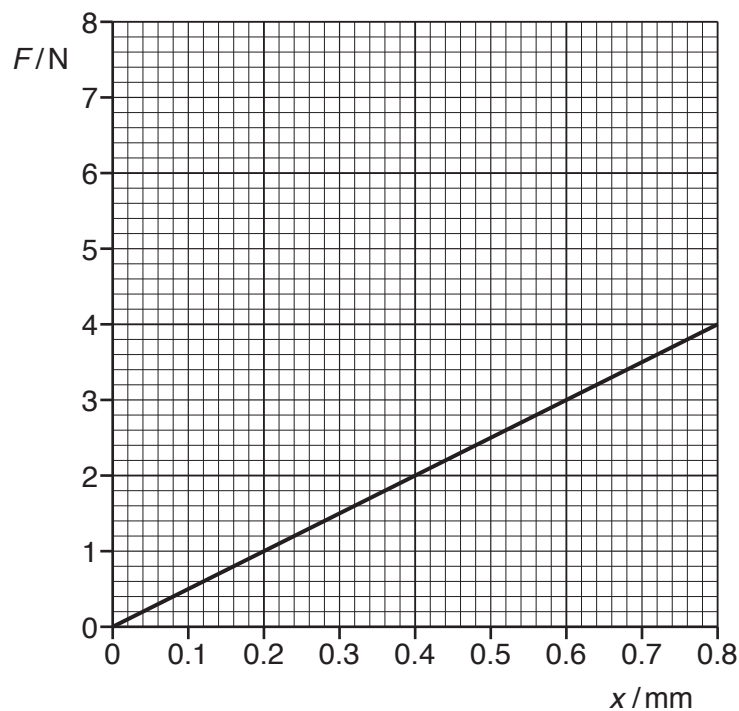

Fig. 3.1
- (b) A wire is fixed at one end so that it hangs vertically. The wire is given an extension x by suspending a load F from its free end. The variation of F with x is shown in Fig. 3.1.
- (iii) Use Fig. 3.1 to calculate the increase in the energy stored in the wire when the load is increased from 2.0 N to 4.0 N.
On Fig. 3.1, sketch the variation with extension x of the load F for the new wire from $x = 0$ to $x = 0.80$ mm. [2]